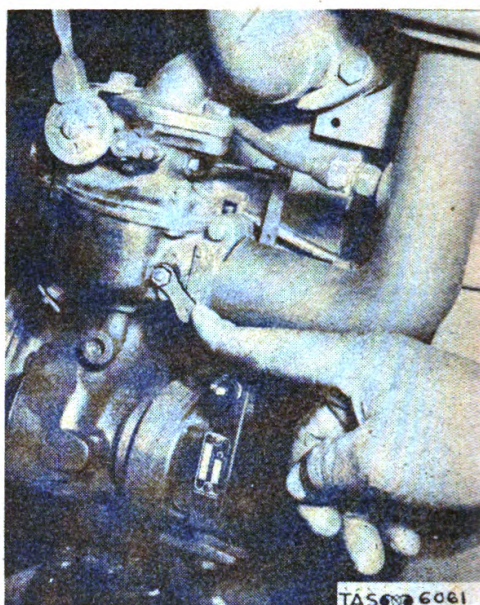

Fig. 61. Pushing Choke to "CL" Position.
(9) Push the choke down to the "CL" (closed) position. (See fig. 61.) The choke will release automatically when the engine starts.